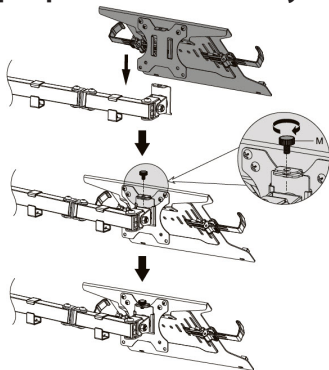

Figure 11
1. Align the hole in the **VESA Attachment Tab**, located on the **Laptop Mount Assembly**, with the hole in the **VESA Mount Attachment Point**, located on the **Arm (B)**. (Figure 11)
2. Insert one **VESA Mount Knob (M)** through the hole in the **Laptop Mount Assembly** and into the **VESA Mount Attachment Point** and tighten by hand, until hand tight.